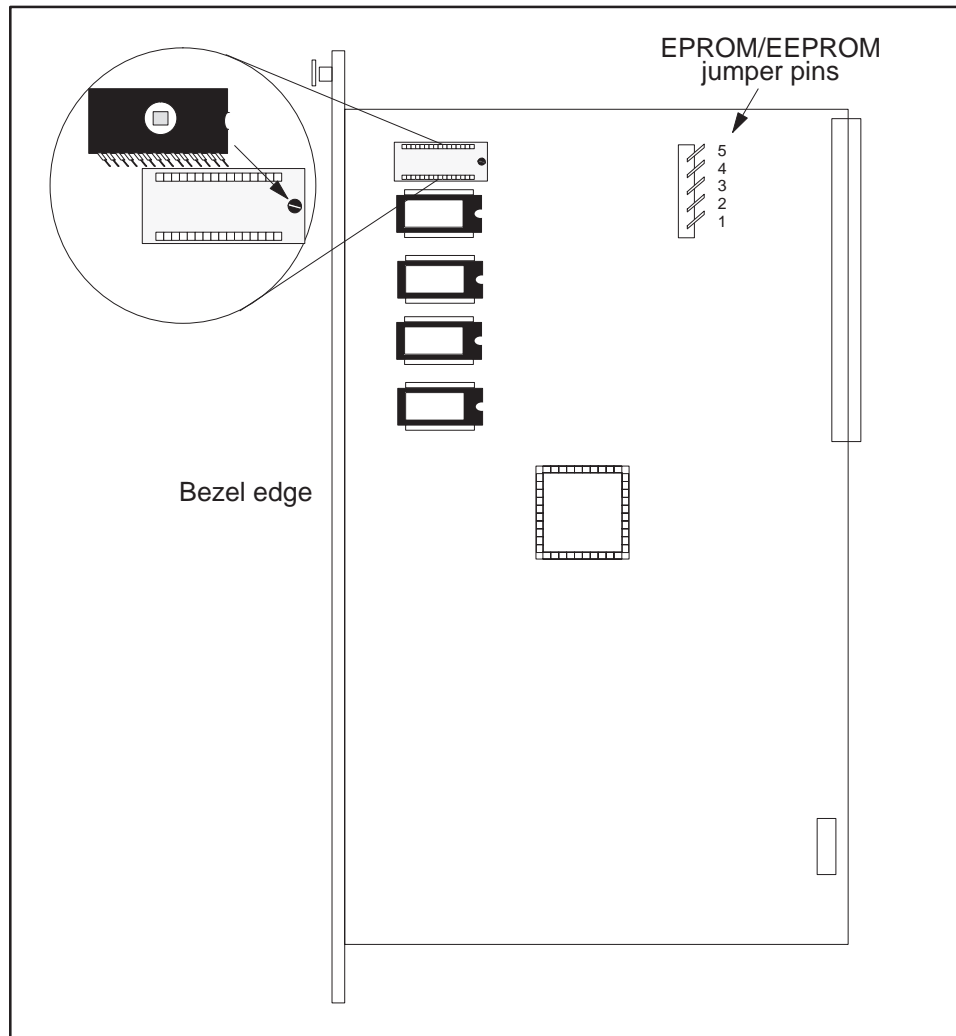

Figure 4-2 TI535 EPROM/EEPROM Socket and Jumper Pins
5. If you are installing an EPROM, place jumpers on pins 2–3 and 4–5. If you are installing an EEPROM, place jumpers on pins 1–2 and 3–4. Refer to Figure 4-2.
7. Insert the EPROM/EEPROM, aligning the notch on the EPROM/EEPROM with the socket screw. Refer to Figure 4-2.